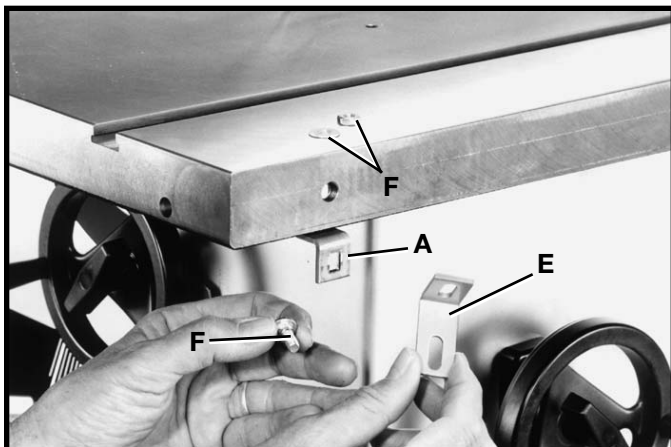

Fig. 46
4. Assemble angle bracket (E) Fig. 46, onto Z-bracket (A) using 1/4-20 x 3/4 carriage bolt (F) with flat washer and hex nut. **IMPORTANT:** The longer leg of angle bracket (E) must be secured to Z-bracket (A). Assemble the remaining two angle brackets to the edge of the table in the same manner.